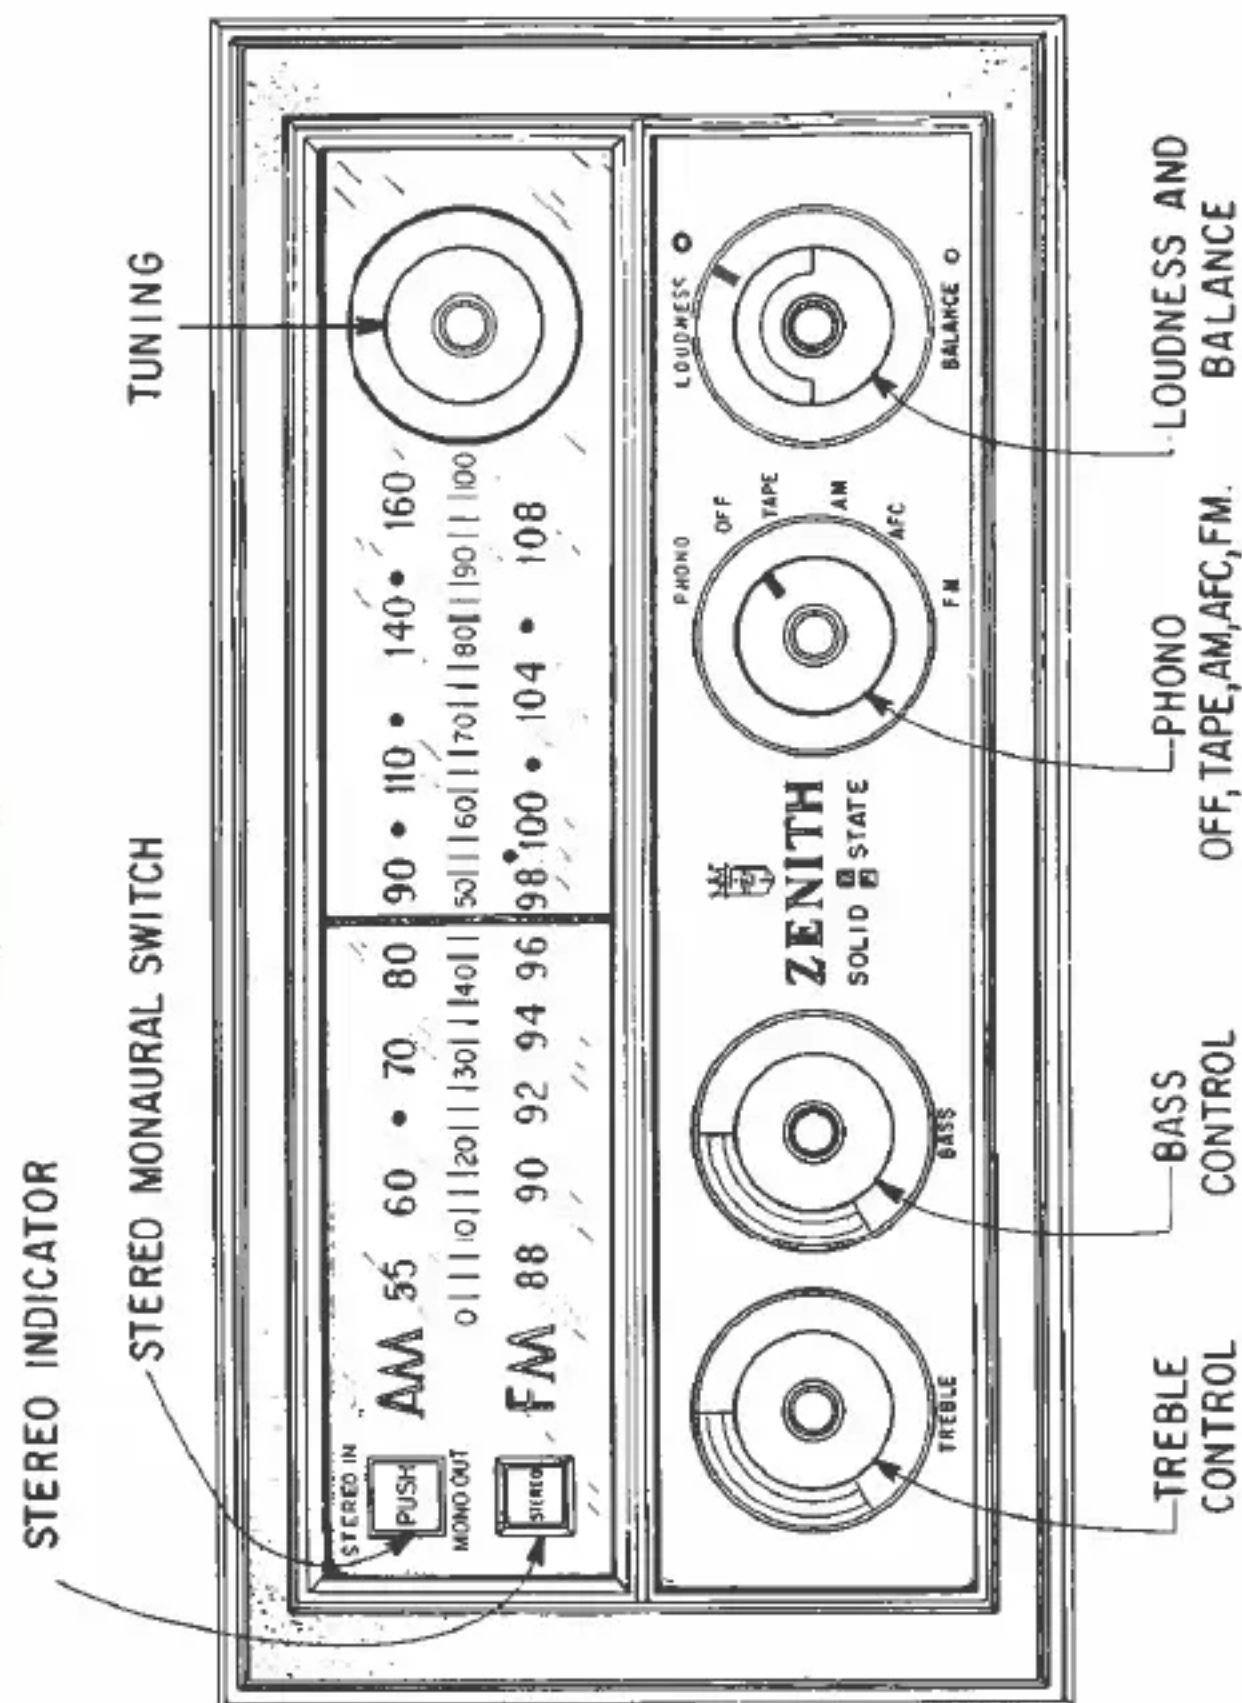

Figure 2—Control Panel
The "Tone Controls"—bring a new concept to record tone quality. Continuously variable bass control permits desired emphasis or lows within the broad range of bass tone. Treble control lets you vary the highs along with the wide higher range to pick up the delicate tone of violins and coloratura soprano. Together these two controls give the finest tone quality for the most discriminating ear. (See Fig. 2.)
**STANDARD BROADCAST BAND:** Figure 2 shows the position of the Controls. To place the Tuner in operation, rotate the selector switch to AM position. This will turn on the Tuner and Amplifier.
When the FM station to which you are tuned is transmitting stereophonically, the Stereophonic Indicator on the Tuner control panel (See Fig. 2) will light up indicating the tuner is receiving a stereophonic program. Should you tune to a monaural FM program the Indicator will not light up, indicating the receiver is operating monaurally and receiving a monaural program.
1. Rotate the Selector Switch to Phono Position. (Fig. 2.)